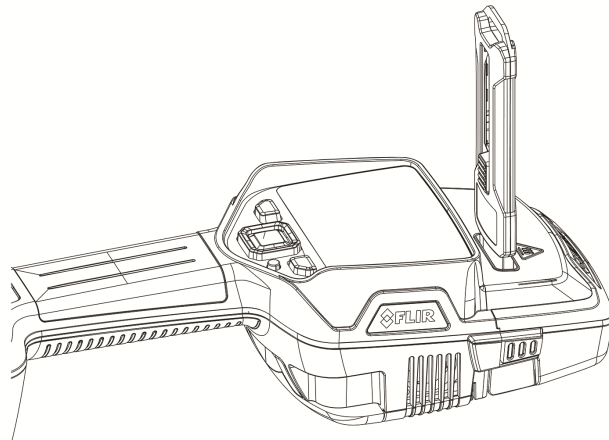

Figure 5-6: Reference standard in TD slot
Step 3: With the holes facing toward the Fido X4 display, insert the reference standard into the thermal desorber (TD) slot as shown in Figure 5-6.